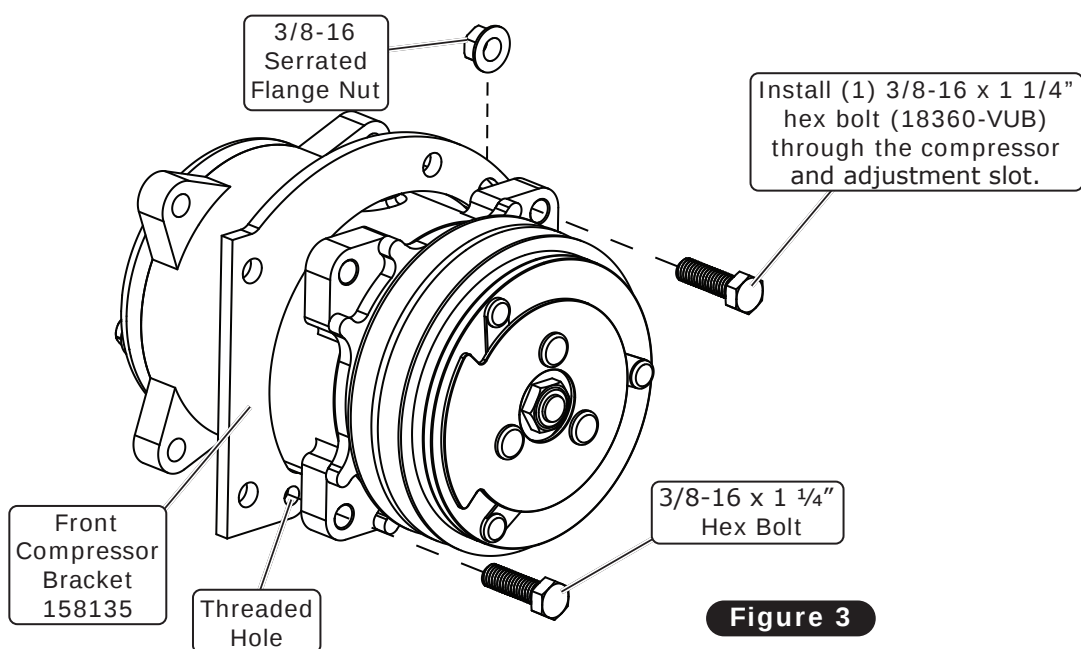

Figure 3
4. Install the front compressor bracket onto the compressor using a 3/8-16 x 1 1/4" hex bolt inserted into the threaded hole at the bottom (See Figure 3, below).
5. Install a 3/8-16 x 1 1/4" hex bolt through the compressor and adjustment slot, then secure it with a 3/8-16 serrated flange nut on the back of the adjustment arm as shown in Figure 3, below.